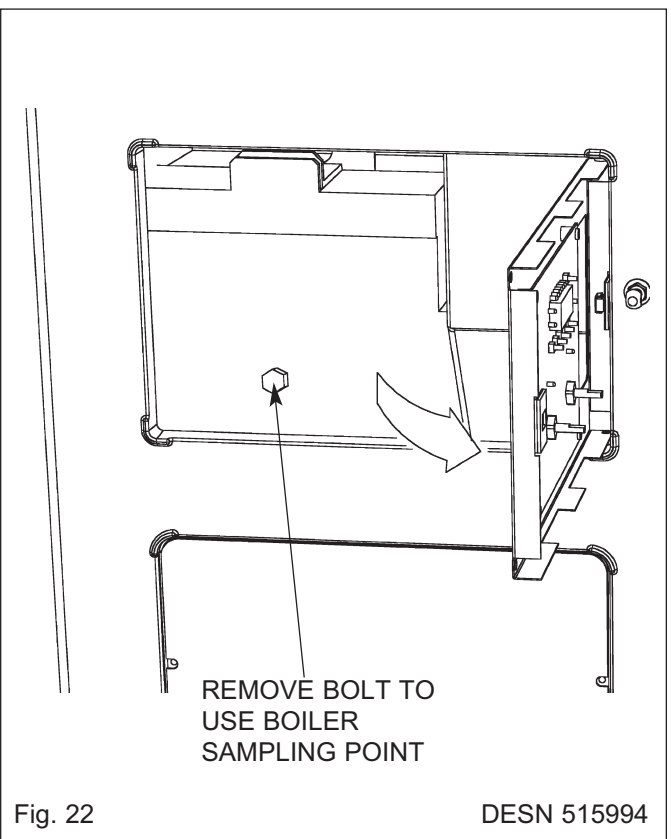

Fig. 22
2. Remove plug from sampling point. (See Fig. 22).